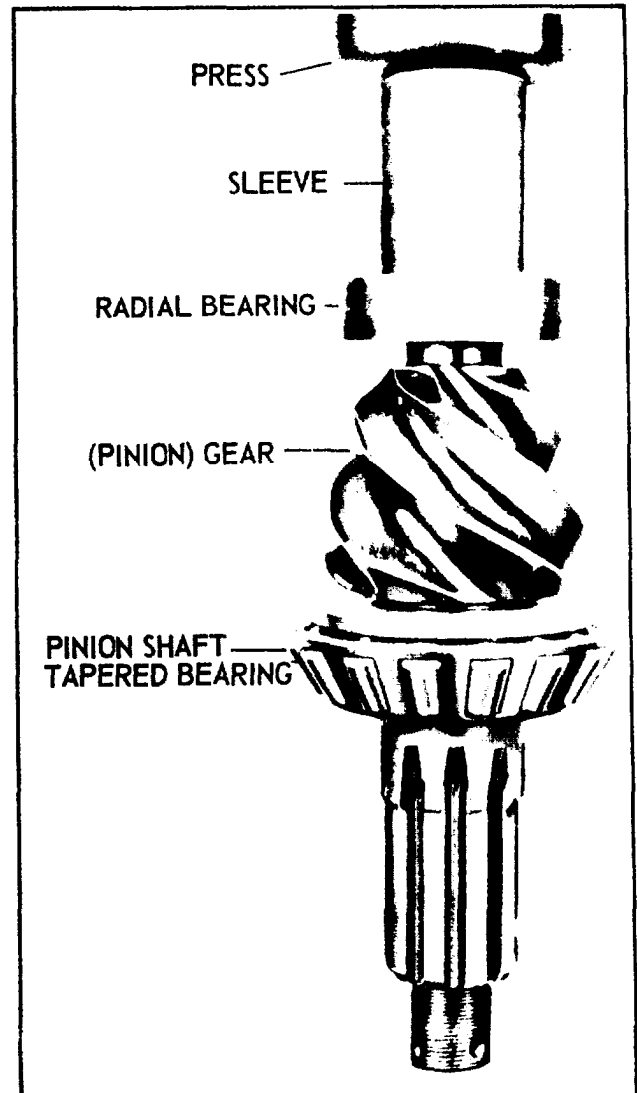

FIGURE 8-30.
a. Press the roller bearing firmly against the pinion shoulders with a sleeve that will bear only on the bearing inner race (see figure 8-30). Install the lock ring and squeeze the ring into the pinion shaft groove.
b. Press the inner tapered bearing (see figure 8-30) on the shaft. Press bearing cups firmly against bearing shoulders in the cage.